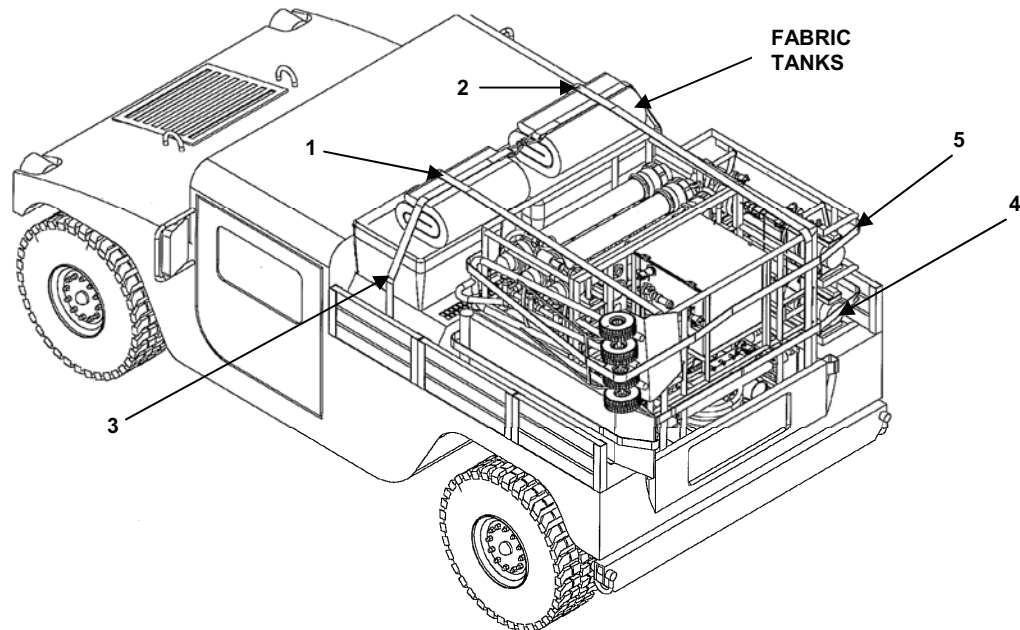

Figure 15. HMMWV Loaded with LWP.
25. Mate the two ends of strap (Figure 15, Item 3) over the fabric tanks and ratchet them down.
26. Bring the straps (Figure 15, Item 1) and (Figure 15, Item 2) over the modules and secure the hooks on the rings at the end of the cargo bed.
28. Load the ramp and hand truck on the left wheel well and secure with straps (Figure 15, Item 4) and (Figure 15, Item 5). Loop the ends of the straps around the module frames and onto itself.